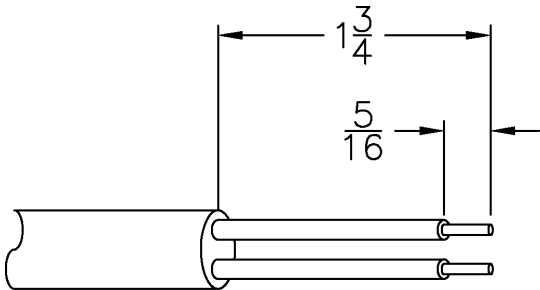

Figure 1: Recommended strip lengths
6. Strip the alarm float switch as recommended in figure 1.